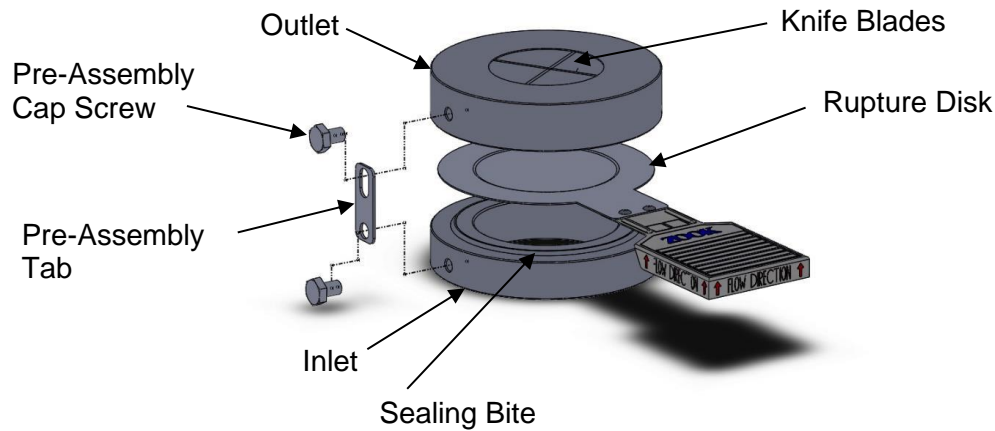

Figure No. 1
- 1) Carefully remove the rupture disk holder from its packaging and disassemble by removing pre-assembly capscrews (Figure No. 1), lift the outlet up and set aside **DO NOT SET OUTLET DOWN ON THE KNIFE BLADES**. Discard the protective shipping paper sandwiched between the two halves of the holder.
- 2) Disassemble the assembly by removing the pre-assembly tab screws (Figure No. 1), and lift the outlet up and set aside **DO NOT SET OUTLET DOWN ON THE KNIFE BLADES**.
- 1) Fasten the assembly together by reinstalling the pre-assembly tabs and screws as shown in Figure No. 1. The pre-assembly screws should be snug, NOT wrench-tight.